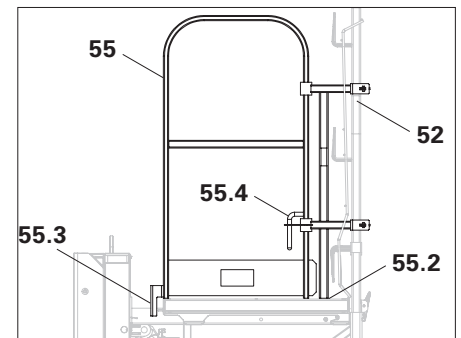

Fig. B5.03a
4. The mounting (55.2) must rest on the Scaffold Deck. (Fig. B5.03a)